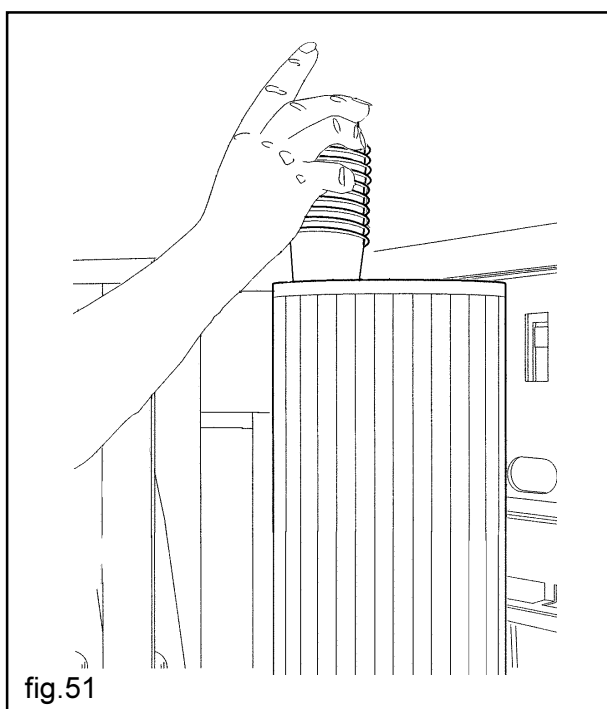

fig.51
- Before switching on the vending machine, load a column of cups as long as it is not the one correspondent to the dispensing ring (fig.51).